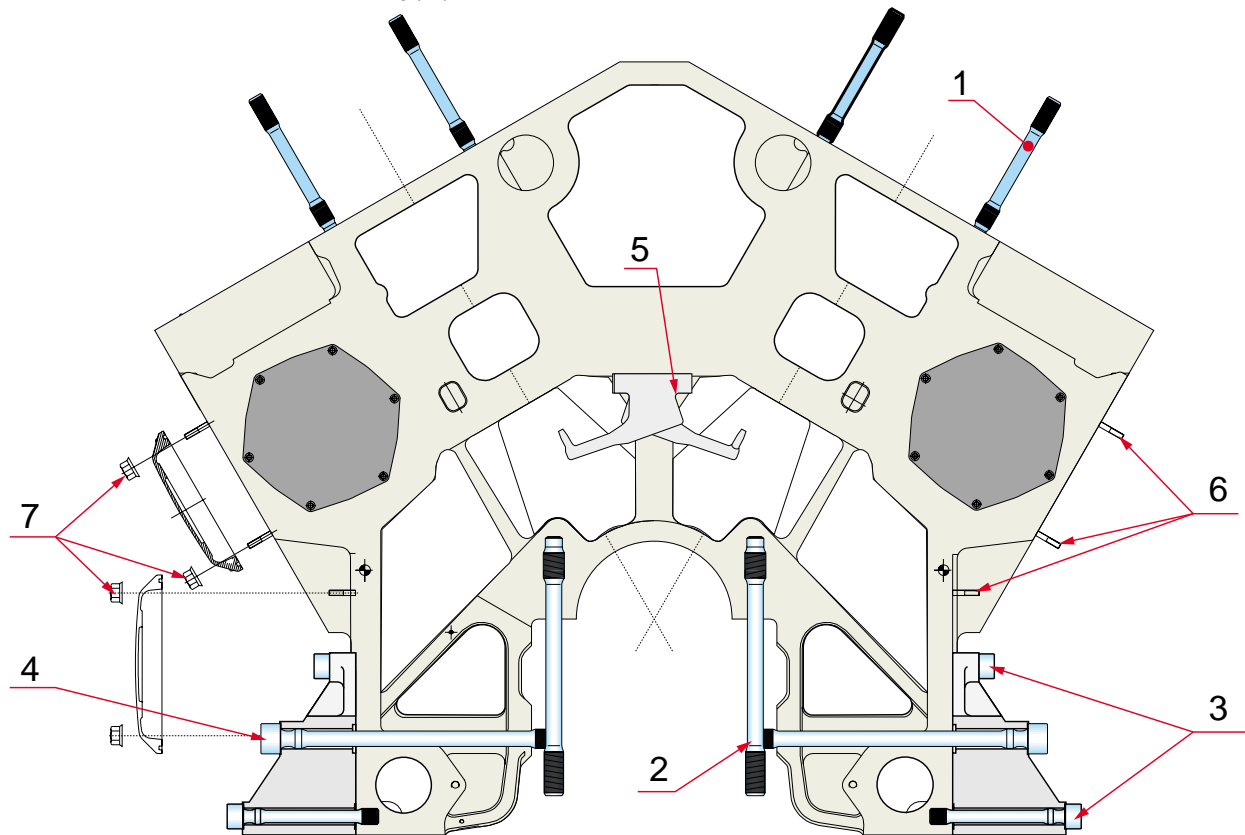
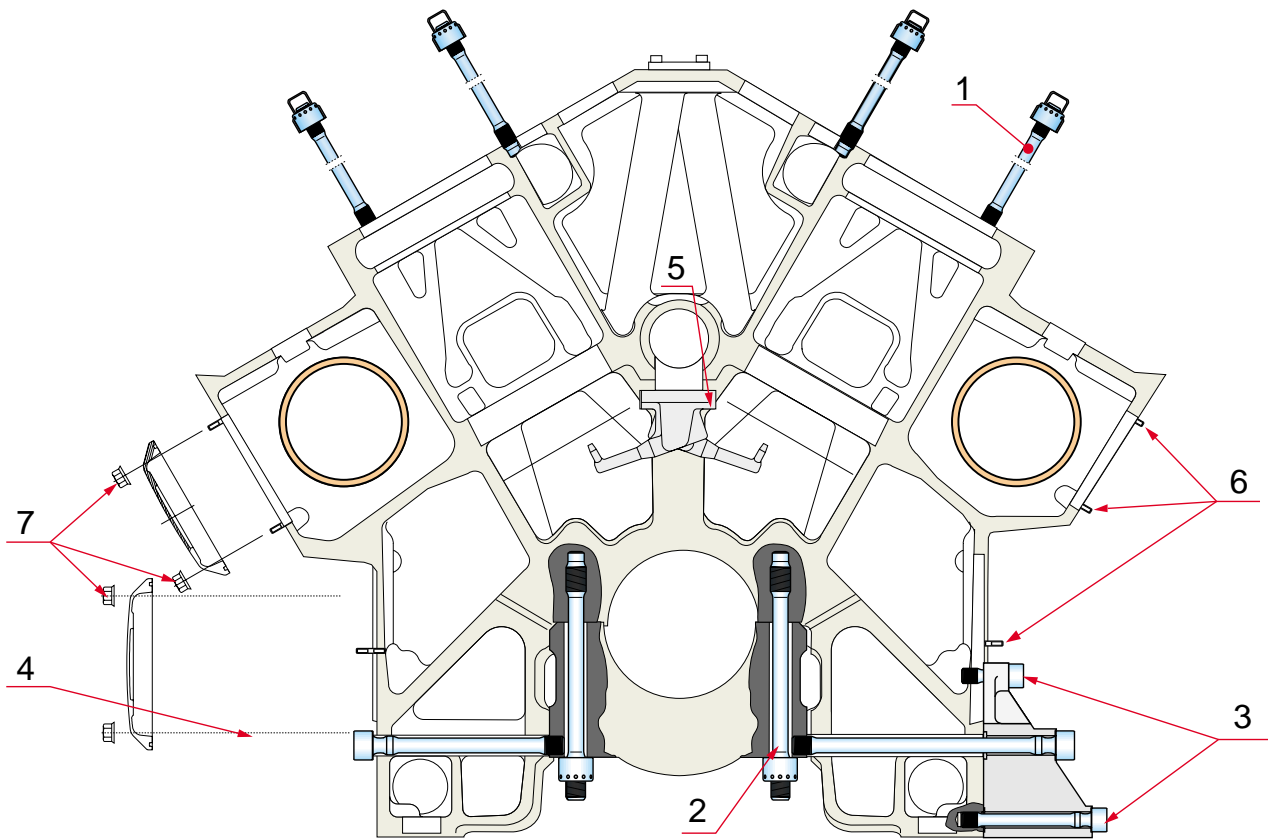

Fig. 07-6
Fig. 07-7
a) **Engine block** for W12V220 see Fig. 07-6, for W18V220 see Fig. 07-7